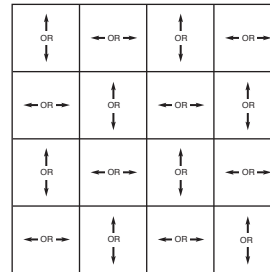
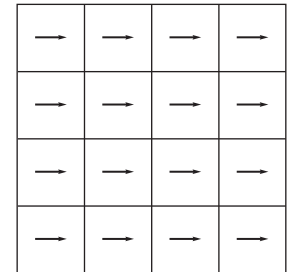
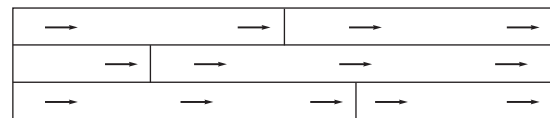

Fig. 1 - Turn tiles as shown.
Fig. 2 - Arrows in the same direction.
Fig. 3 - Install planks with arrows running in the same direction.
- For best visual results: For DuraCeramic and DuraCeramic Options, the directional arrows printed on the back of the tile should be installed following the illustration in Figure 1, with tiles turned randomly, i.e. north, south, east and west. For Ovations, install with directional arrows pointing in the same direction as shown in Figure 2. For DuraPlank II, install all planks with arrows pointing in the same direction following the illustration in Figure 3.